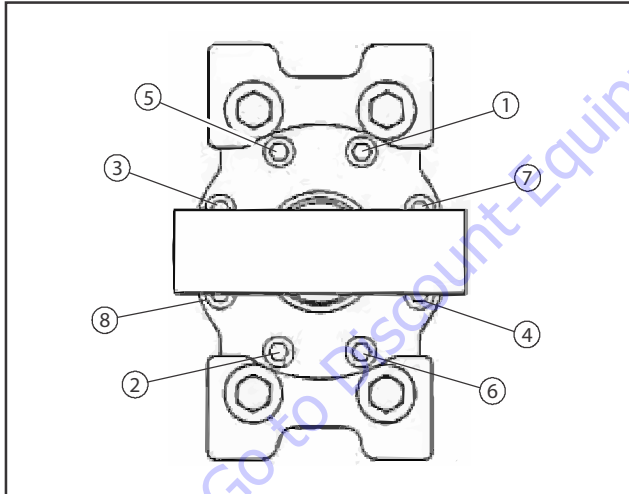

Figure 5-107. Cylinder Head Torque Sequence
15. Install two pad supports (7) to cylinder head (12) and barrel (2) with eight capscrews (6). Torque capscrews to 20 ft-lb (27 Nm) following sequence shown in Figure 5-107.